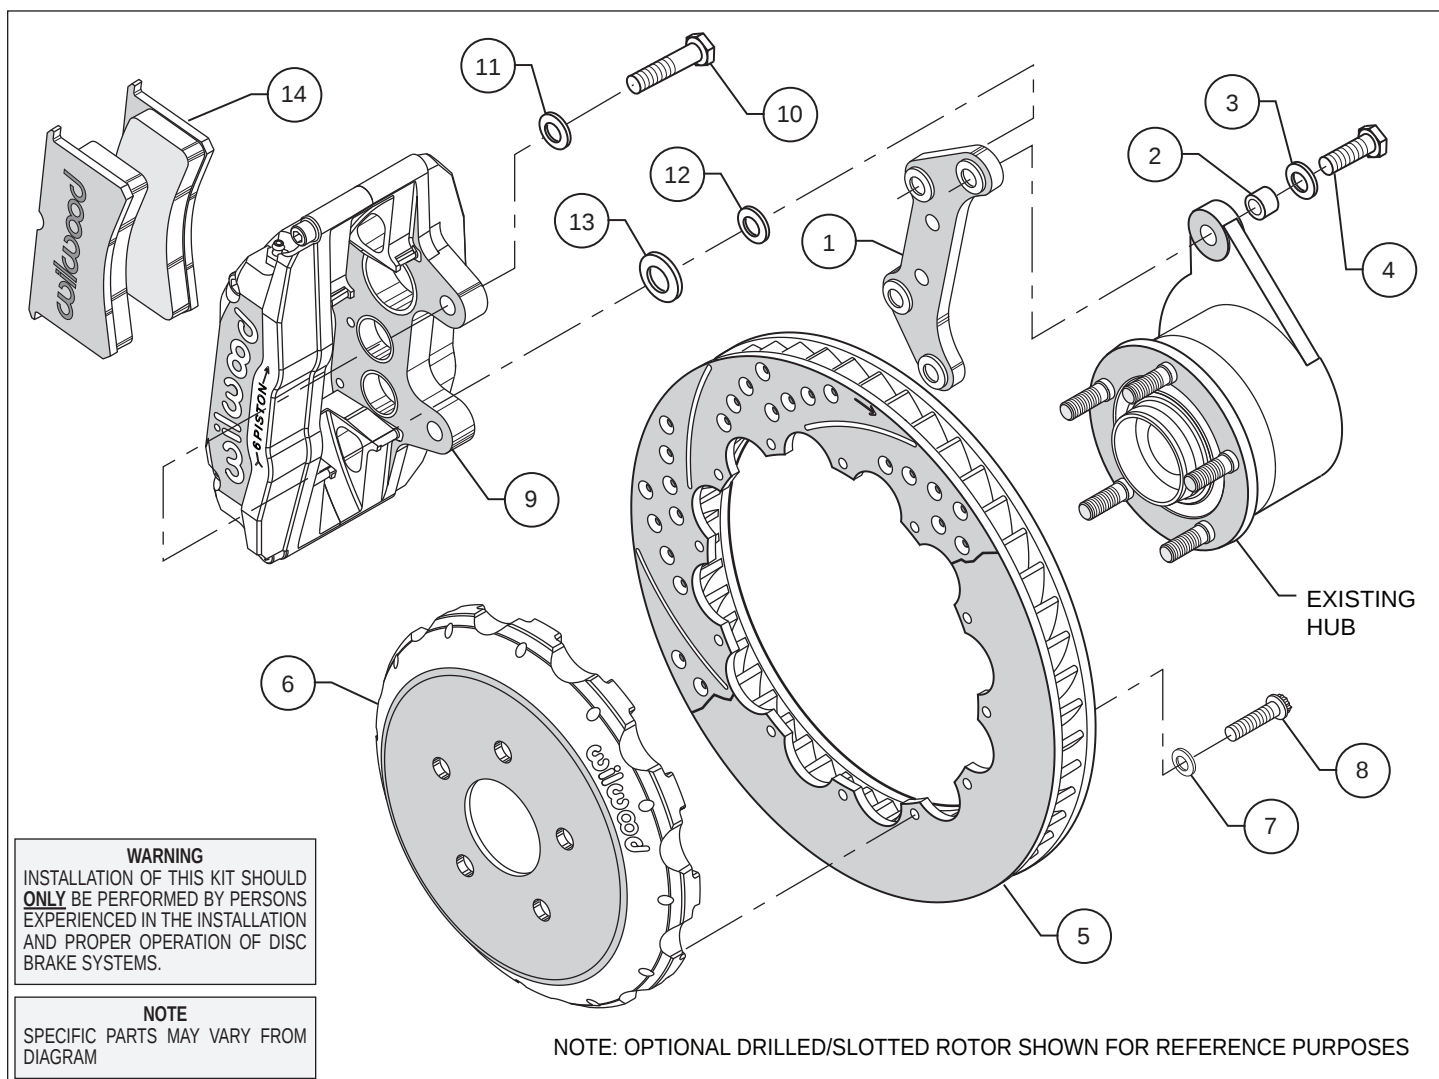

Figure 1. Typical Installation Configuration, Left Hand Application Shown
- Insert one sleeve (2) each into the holes on the top and bottom of the spindle "ears" where the OEM caliper bracket was removed. Apply red *Loctite*® 271 to the caliper mounting bracket bolt threads (4) before installation of the caliper mounting bracket (1). Install the bracket with the flanged heads of the clinch nuts facing outboard, as shown in Figure 1. Slide bolt (4) through washer (3) and into the previously installed sleeve (2), from the backside of the hub. Finger tighten. Repeat for the lower mounting holes. Torque bolts to 60 ft-lb.
- NOTE:** Please reference the caution statement at the beginning of the assembly instructions. With the bleed screws pointing up, mount the caliper (9) onto the caliper mounting bracket (1) using bolts (10) and washers (11), as shown in Figure 1. Insert spacer (13) between the caliper ears and the bracket, before tightening the bolts. View the rotor (5) through the top of the caliper. The rotor should be aligned in the center of the caliper. If not, loosen the two bolts and adjust the caliper by using 0.030 inch thick shims (12), placed between the spacer (13) and the bracket. Finger tighten and recheck alignment. Always use the same amount of shims on both the top and bottom caliper mounting bolts. Loosen the two bolts and apply red *Loctite*® 271 to bolt threads and torque to 60 ft-lb.
- Remove the caliper bridge bolt and install the disc brake pads (14) then reinstall the caliper bridge bolt. Repeat this procedure for the other wheel.